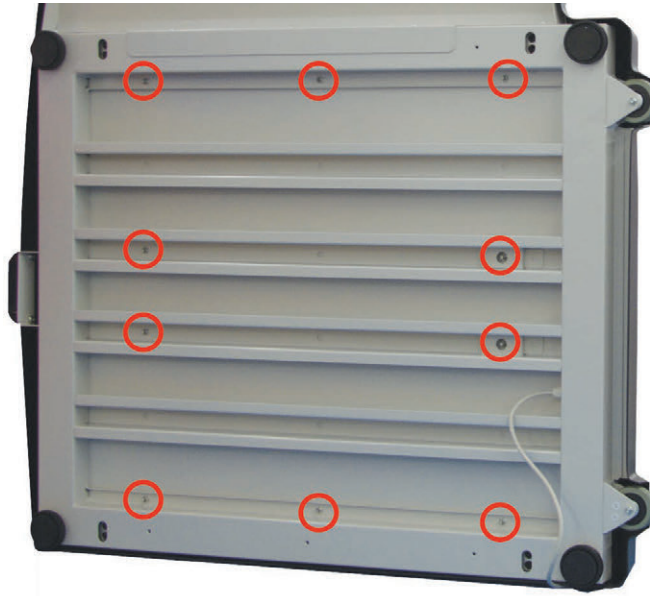

Figure 4. Base Nut Locations
6. Remove the nuts and washers with an 8mm socket wrench from the base (see Figure 4).